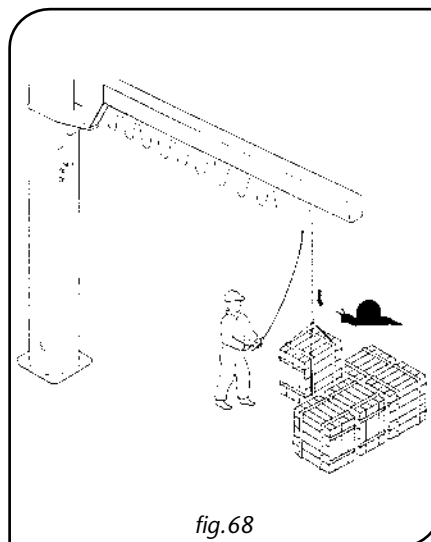

fig.68
- **ALWAYS** use "slow" speeds for approaching and positioning operations (fig. 68).